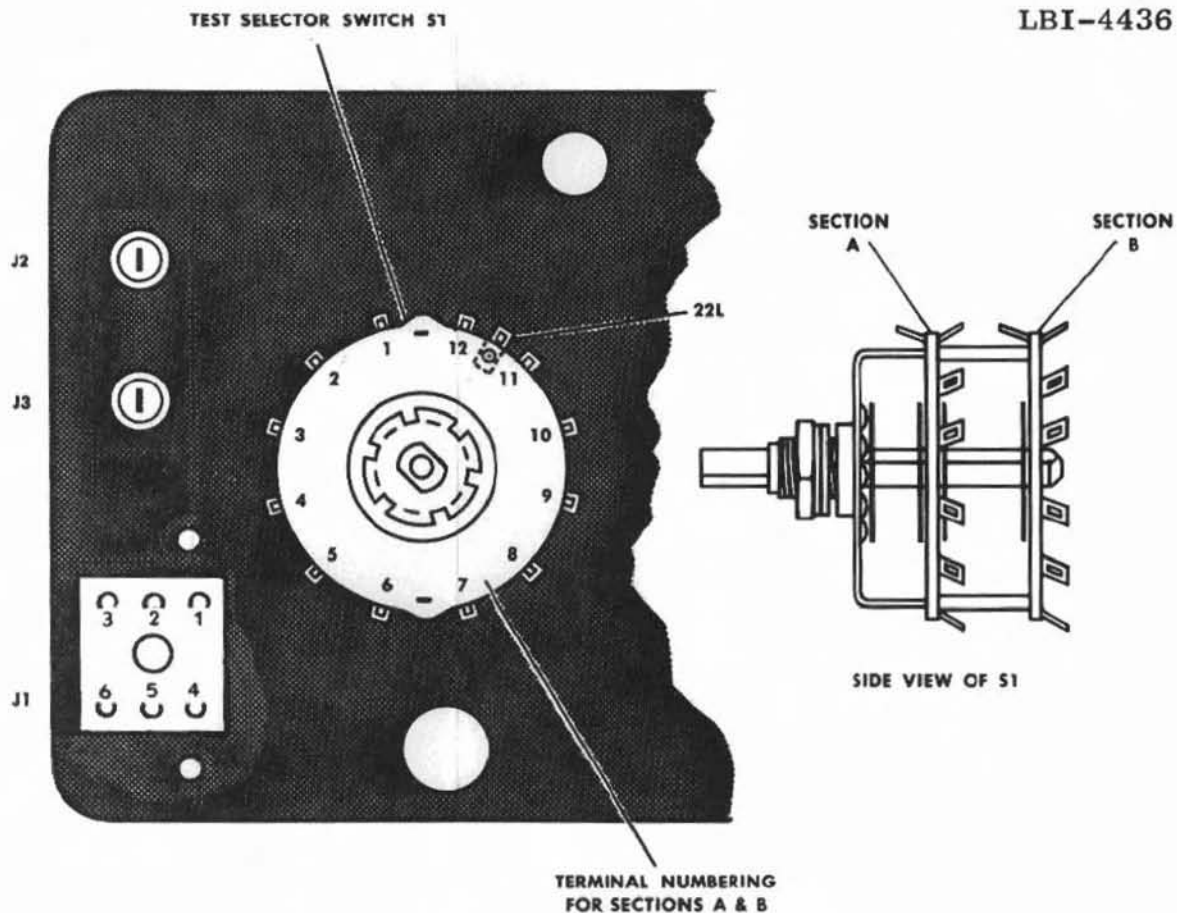

Figure 4 - Selector Switch Wiring
Test Selector Switch Wiring (see Figure 4)
Next, make the following connections to the Test Selector switch by stringing a single length of bare hook-up wire and sleeving as indicated (see Figure 4).
Meter Cable Connections (see Figure 4)
- ☐ Connect the red wire from terminal 22L on section A of Test Selector switch S1 to terminal 1 (S) of Polarity switch S2.
- ☐ Connect the red wire from terminal 12 on section A of Test Selector switch S1 to the red external jack J2 (S).
- ☐ Connect the red wire from terminal 12 on section B of Test Selector switch S1 to the black external jack J3 (S).
- ☐ Connect the red wire from terminal 22L on section B of Test Selector switch S1 to terminal 2 (S) of Range switch S3.
- ☐ Connect the red wire from terminal 5 of TB1 to terminal 5 (S) of Polarity switch S2.
- ☐ Connect the wire from terminal 1 of TB1 to terminal 2 (S) of Polarity switch S2.
- ☐ Connect a 2-inch piece of red wire from terminal 5 (S) of mike jack J4 to terminal 2 (NS) of XMTR switch S4.
- ☐ Connect a 3-inch piece of red wire from terminal 9 (S) of section B of the Selector switch to terminal 2 (S) of XMTR switch S4.
- ☐ Sleeve both leads and connect the 20-Megohm resistor R4 from terminal 7 (NS) to terminal 11 (NS) on section B of switch S1 (see Figure 4).